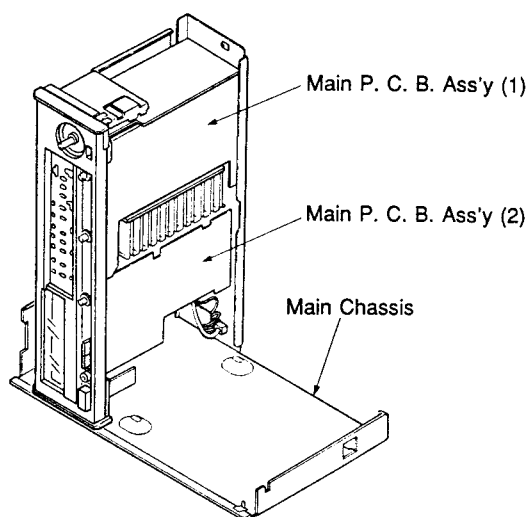

Fig. 2
- Remove the Main Chassis as shown in Fig. 2.